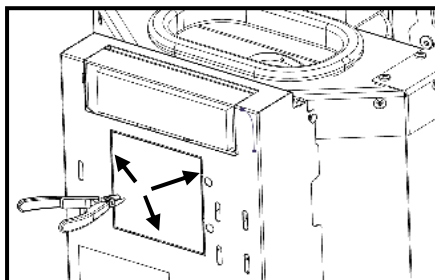

Figure 52 - Removing the rear lid of the equipment
f) Remove the rear lid from the unit's chassis marked in Figure 52, by cutting the identified areas using a pair of pliers.